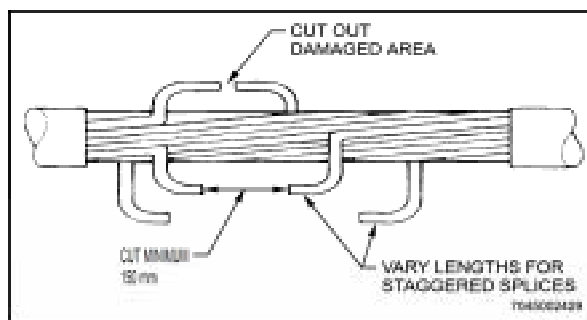

Figure 5-10 Removing Damaged Area
- f. Cut out the segment of wire with conductor or insulation damage. If a jumper wire is required, cut out at least 15cm of the damaged wire to allow room for splicing (Figure 5-10).